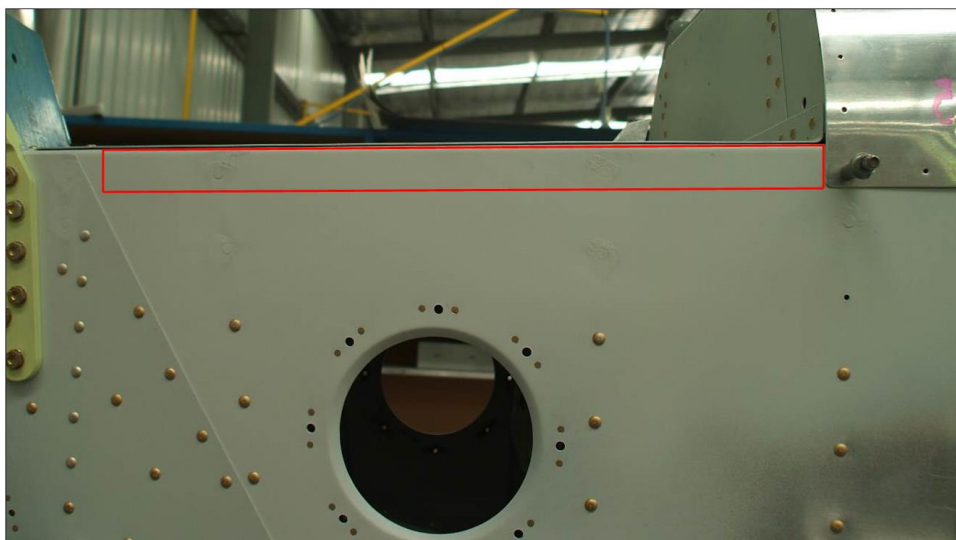

Figure 1
2. Remove Wear Strip, location is shown in red on Figure 1.